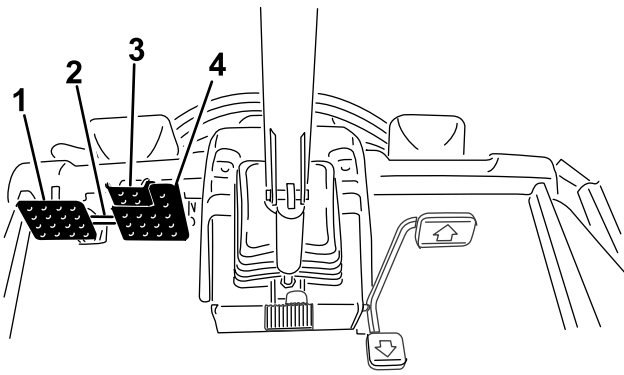

Figure 32
- Disconnect the pedal-locking latch (Figure 32).